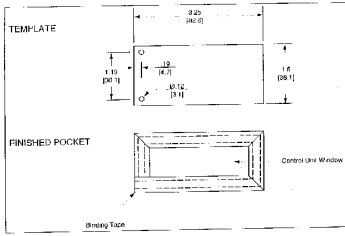

Figure 1
1. 1 ea Cypres control window manufactured according to Fig 1. (Available from RI.) Note: A standard Cypres control pocket may be taken apart for suitable vinyl.